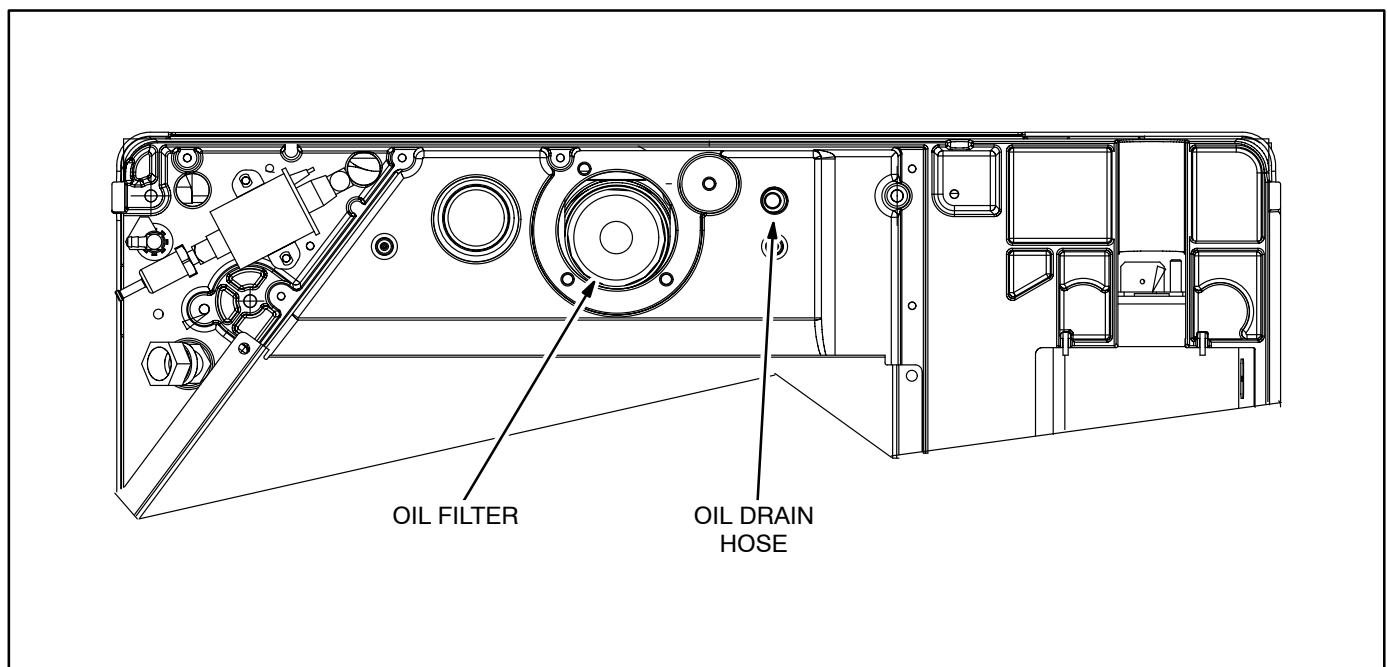

FIGURE 3-2. OIL FILTER AND DRAIN HOSE—VIEW FROM BELOW OF FRONT EDGE OF GENSET
1. Place a pan underneath the oil drain hose and filter (Figure 3-2). Run and then stop the engine when it is warm.